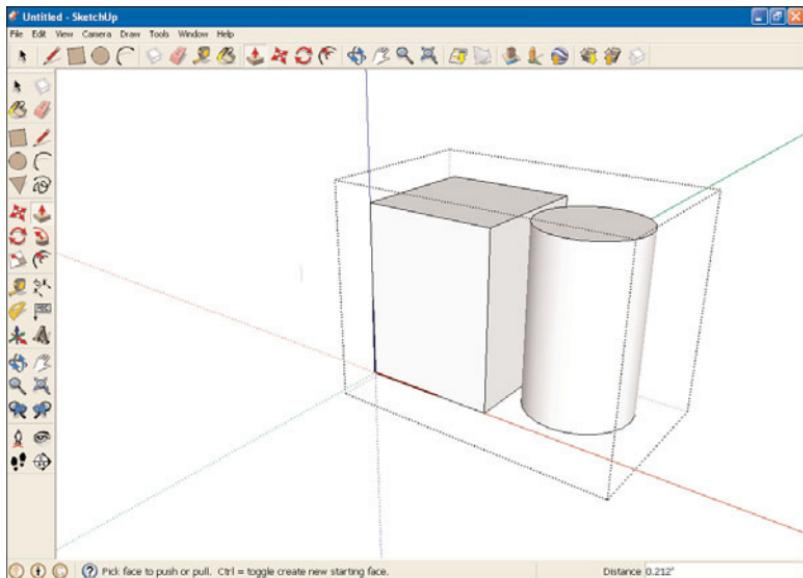

FIGURE 6.9 An edited component.
5. Click the top surface of the cylinder to pull the cube up to match the cylinder in height, as you see in Figure 6.9. This is sizing the cube by inference.